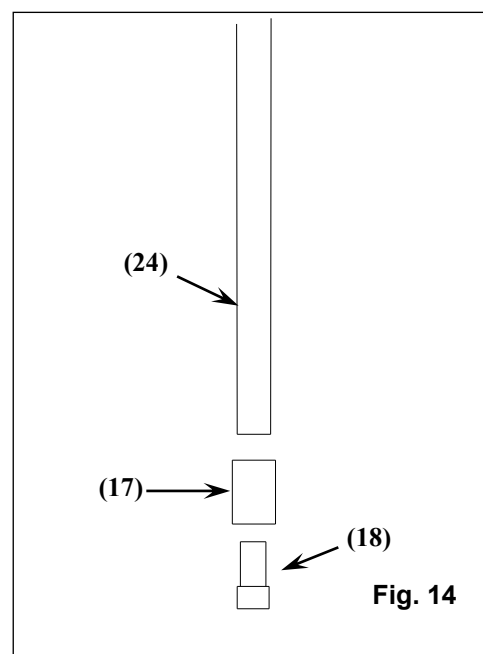

Fig. 14
2. If a garden hose is to be used, a garden hose adapter fitting is included with the slide. Assemble the pieces as shown in Figure 14 and attach to the end of the PVC plumbing assembly at the base of the ladder.